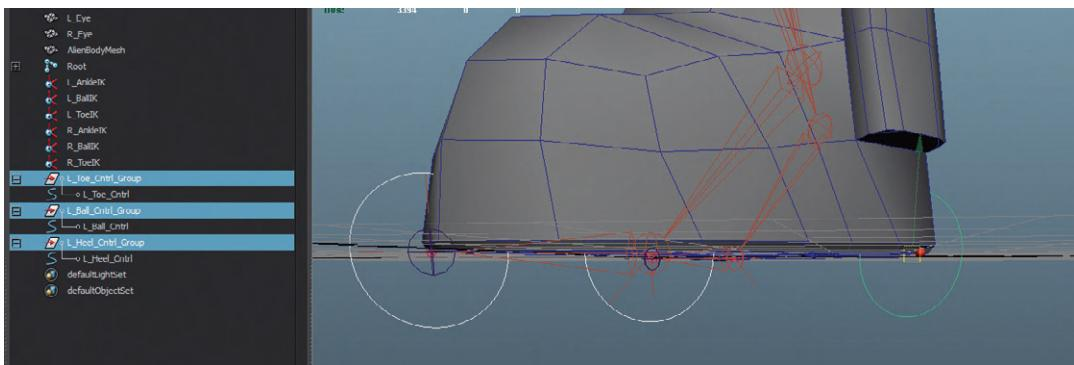

FIG 8.22 L_Heel_Cntrl_Group and L_Heel_Cntrl_Group snapped to heel.
Step 37: Create a new NURBS circle handle named L_Heel_Cntrl. Group it to itself – name the group L_Heel_Cntrl_Group, and then snap that group to the *heel* of the character (this is the geometry where the heel of the boot would touch the ground (Fig. 8.22).